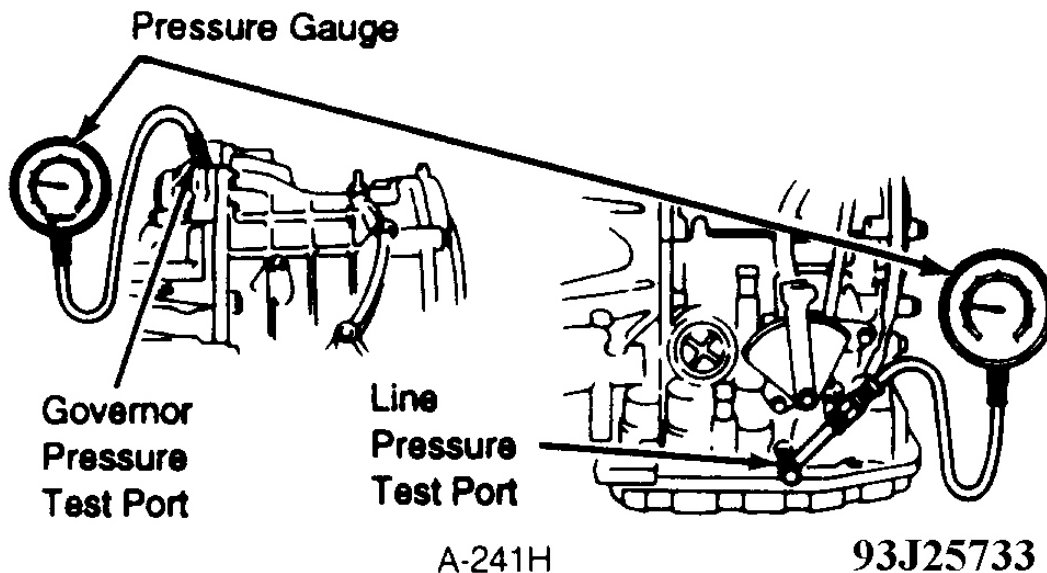

Fig. 6: Checking Hydraulic Pressure
1. Ensure transmission fluid is at operating temperature. Block wheels. Support vehicle on safety stands. Remove transmission case test plug(s). Install hydraulic pressure gauge(s). See **Fig. 6**.